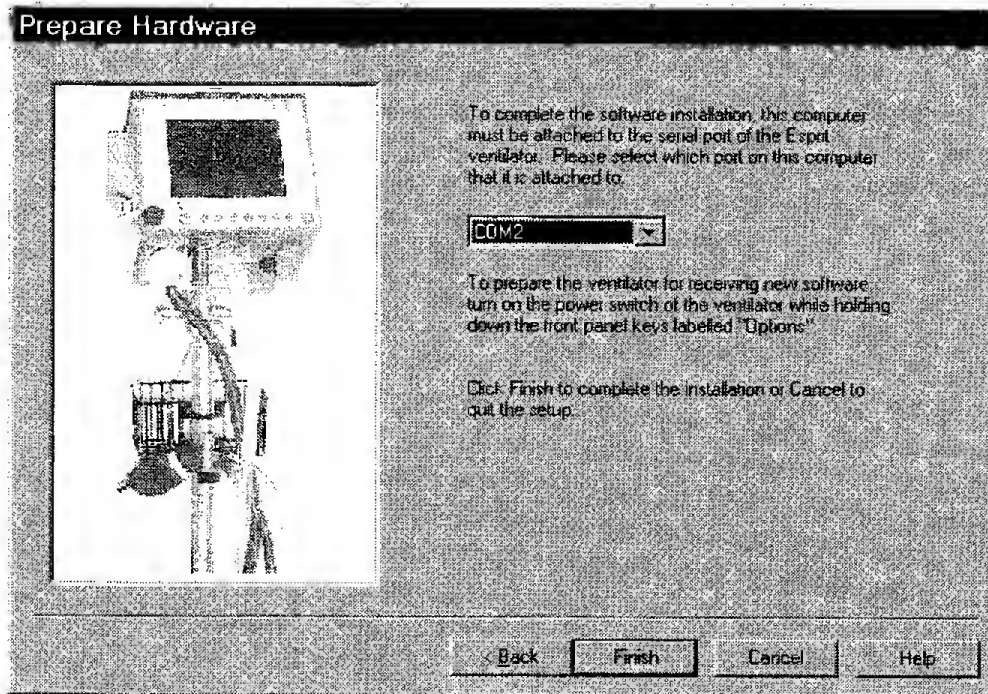

Figure 5-9: Software Download COM Port Screen
6. Specify which port is being used on the PC (see Figure 5-9).
7. Simultaneously press both **OPTION** keys on the ventilator console for 5 seconds while turning the ventilator ON, then click FINISH on the PC (see Figure 5-9).